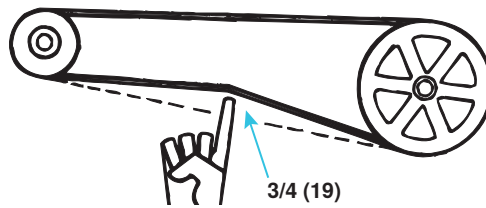

Figure 22. Checking Belt Tension
- Proper belt tension is important to the long life of the belt and motor. A loose belt will cause wear and slippage. Too much tension will cause excessive motor and blower bearing wear. Check belt tension as shown in Figure 22.
- If the belt cannot be depressed 3/4 inches (19 mm), as shown in Figure 22, adjust the belt tension as follows: